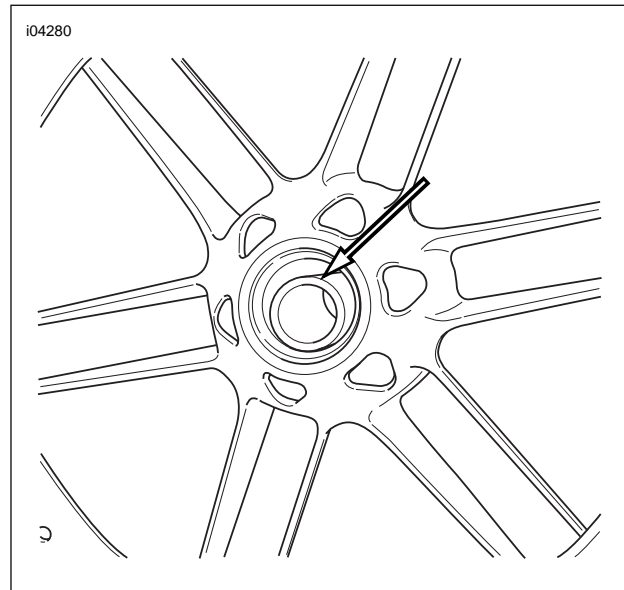

Figure 2-12. Remove the Spacer
12. See Figure 2-12. Remove the spacer.